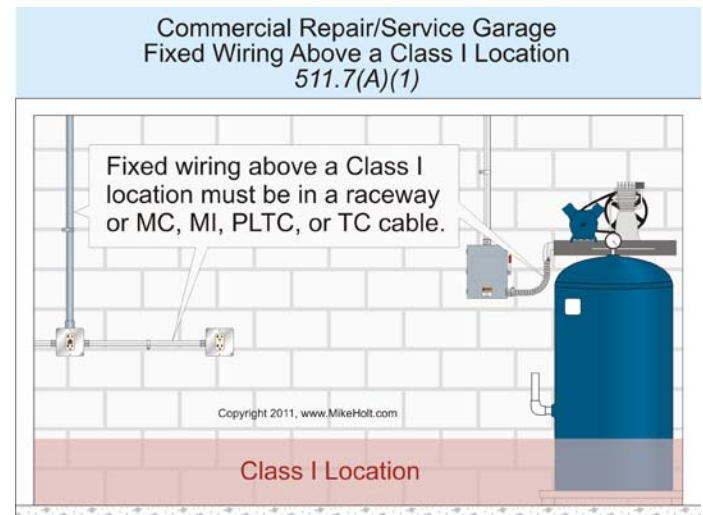

Figure 511-10
(1) **Fixed Wiring Methods.** Wiring above a Class I hazardous (classified) location must be in raceways, Types AC or MC cable, manufactured wiring systems, PLTC cable in accordance with Article 725, or TC cable in accordance with Article 336. **Figure 511-10**